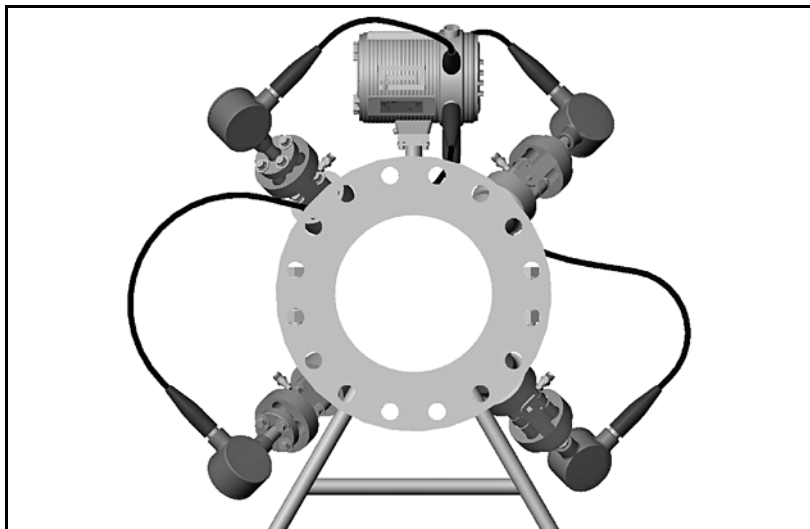

Figure 10: Sentinel End View - Mounting Flange
- Make sure the Sentinel is oriented with the flow transmitter in a vertical position at the top (see *Figure 10* on page 13).
3. Align the flange mounting holes (see *Figure 10* below).